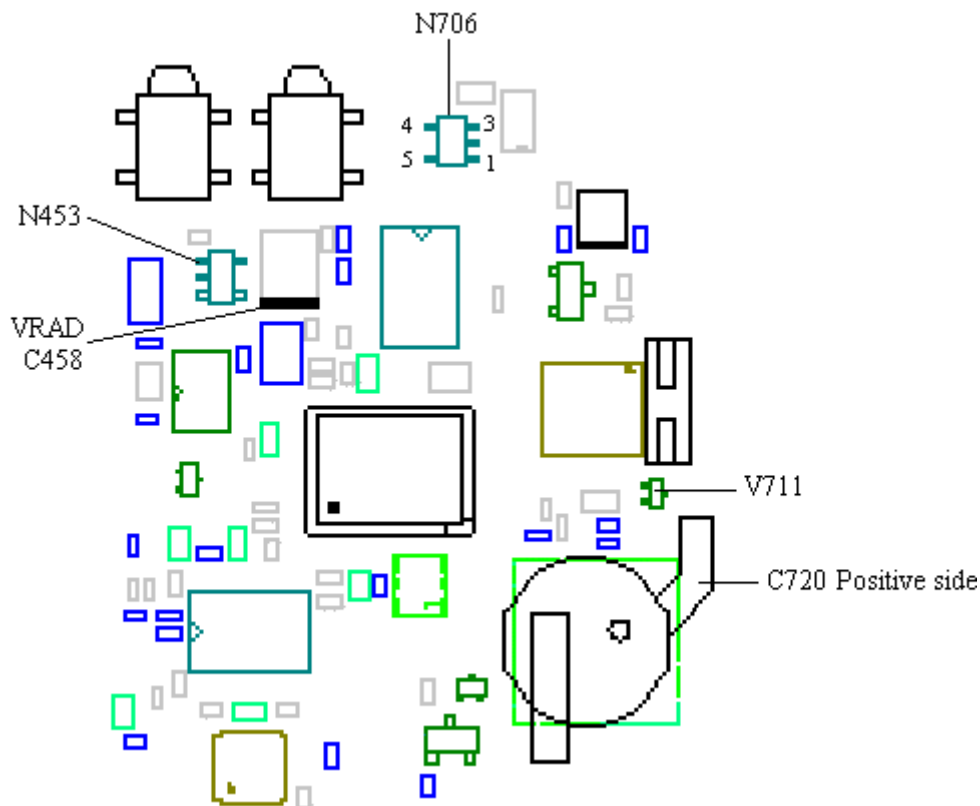

Fig. 6.9
Fig. 6.9 shows the measuring point for VRAD.
Check VRAD (fig. 6.9, ~3.8V), VVCO (fig. 6.4, ~3.8V, measure through one of the holes in the shielding using a thin probe (preferably isolated) as in fig. 6.5) and VRPAD (fig. 6.4, ~3.8V).
- If the resistance is correct, check the voltages at N706 (fig. 6.9). That is VBATT at pin 2, GND at pin 1 and the output voltage (~3.5V) at pin 3.
- If the output voltage is correct, measure the VRTC voltage at the positive side of the backup capacitor, C720 (~3.1V, class A, fig. 6.9).
- If there's no voltage, replace V711 (class A, fig. 6.9).
- If the voltage is correct, measure the resistance from the positive side of C720 (fig. 6.9) to the marked side of C692 (fig. 6.3, ~0 ohms).